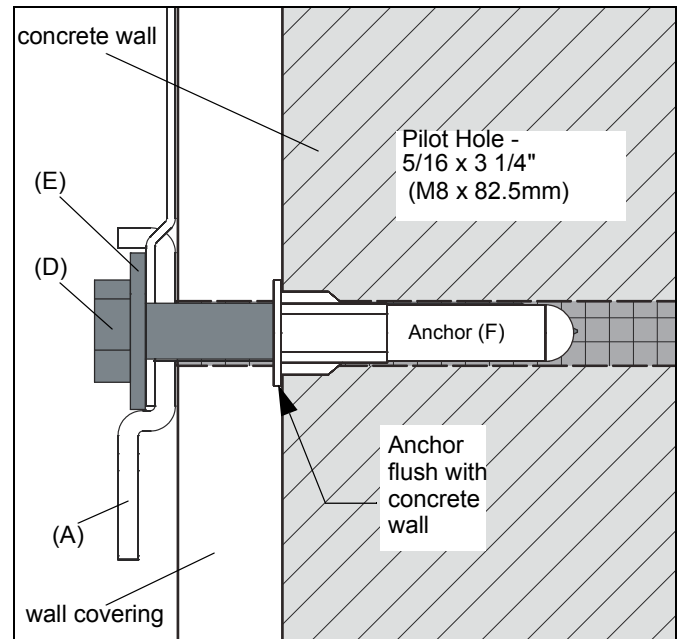

Figure 6
4. Install four or six concrete anchors (F) into drilled holes. Use a hammer to tap anchors into holes. (See Figures 6 and 7)
**IMPORTANT ! :** The anchors must be installed through any wall covering until flush with the concrete wall. (See Figure 6)